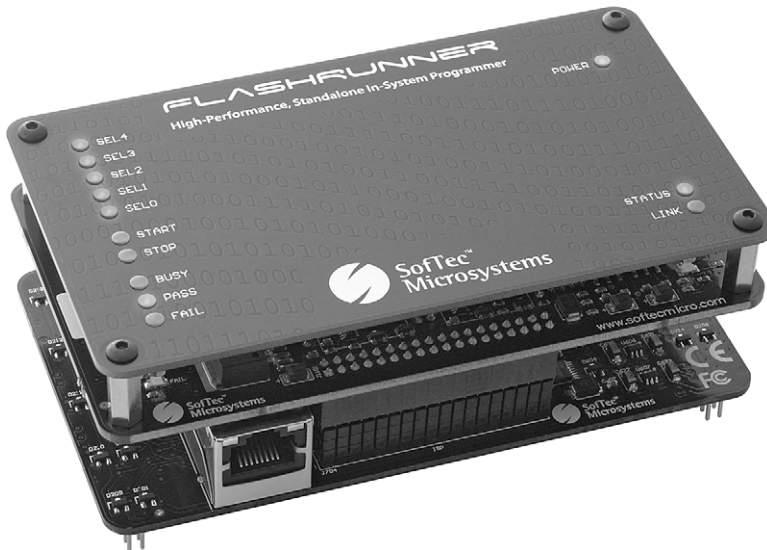

Figure 1.1: FlashRunner FR01M01
- Figure 1.1: FlashRunner FR01M01 11